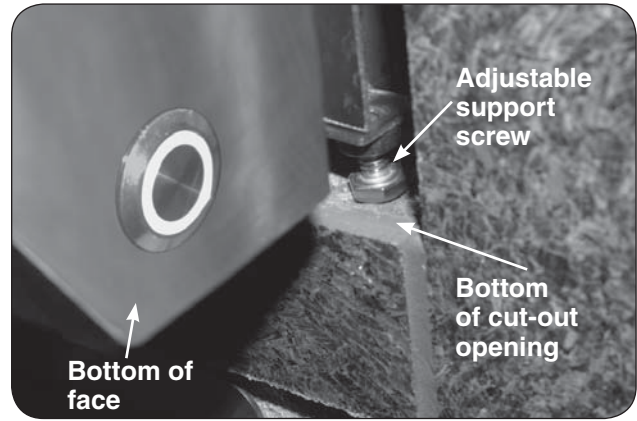

Fig. 22-1 Adjust support screws
- Rotate the adjustable support screws to the left to raise and to the right to lower the respective side of the appliance grill. Use a $\frac{7}{16}$ " open-end wrench as needed. See Fig. 22-1.